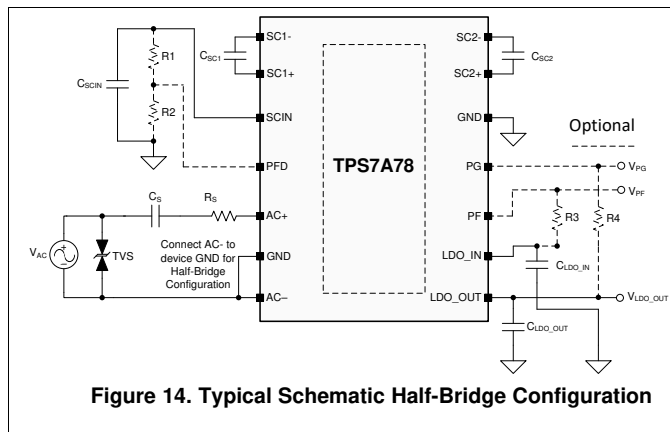
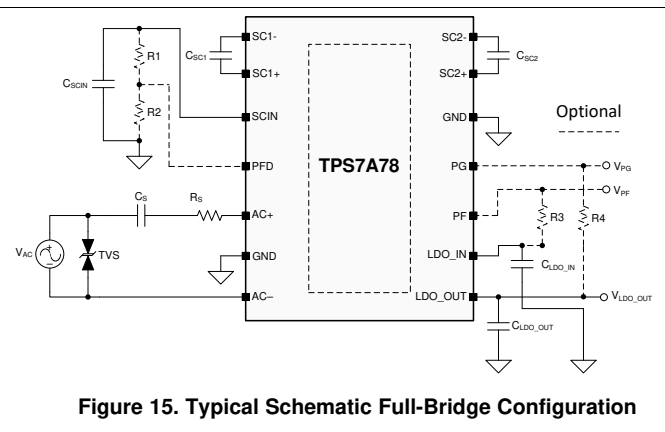

Figure 14. Typical Schematic Half-Bridge Configuration
Figure 15. Typical Schematic Full-Bridge Configuration
The TPS7A78 can be configured to operate either in full-bridge (FB) or half-bridge (HB) configurations. HB configuration ties the AC input pin without the series  $C_S$  and  $R_S$  components to the device GND pins. See Figure 14 and Figure 15 for the HB and FB configurations.
The TPS7A78 can monitor the rectified DC voltage at the SCIN pin to provide the application with an early warning via the power-fail (PF) pin if the main power fails. An external resistor-divider network connected to the VSCIN pin provides the input to the power-fail detect (PFD) analog input pin to monitor for an AC line supply failure. When the AC supply falls below its minimum level programmed by the resistor divider  $R_1$  and  $R_2$ , as illustrated in Figure 14 and in Figure 15, the PF output is pulled low. If this feature is not used, omit  $R_1$  and  $R_2$  and connect PFD and PF pins to the device GND pins reference.
The TPS7A78 is a non-isolated smart AC/DC linear-voltage regulator capable of providing a maximum 120-mA load current; see Figure 14 and Figure 15 for the HB and FB configurations, respectively.
All the capacitors illustrated in Figure 14 or Figure 15 are required for proper operation. The value of  $C_S$  required to support the application current is obtained from the Calculating the Cap-Drop Capacitor  \$C\_S\$  section. The chosen  $C_S$  capacitor must tolerate the peak  $V_{AC}$  supply voltage of the application and meet the required safety requirements.